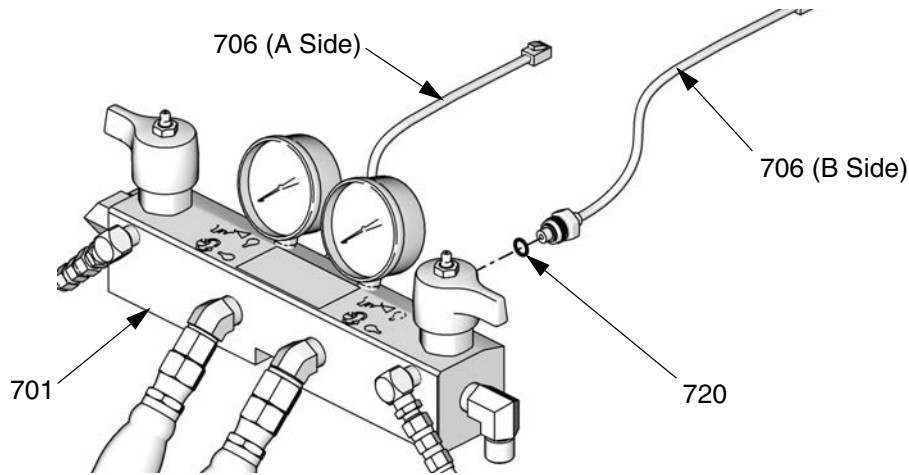

FIG. 7. Transducers
6. Install o-ring (720) on new transducer (706), FIG. 7.